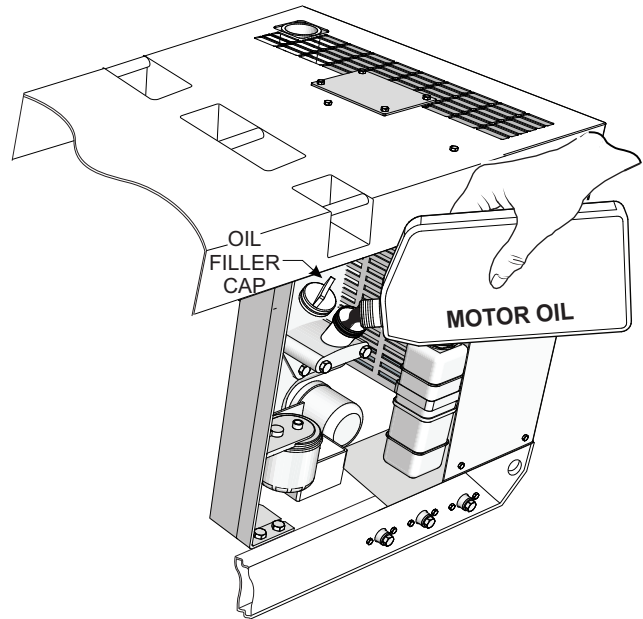

Figure 12. Engine Oil Filler Port
5. If the engine oil level is low (Figure 11C), remove the **oil filler cap** (Figure 12) and fill to a safe operating level (max) as indicated by the dipstick (Figure 11A). Fill with the recommended type of oil as listed in Table 8. Maximum oil capacity is 1.48 gallons (5.6 liters).